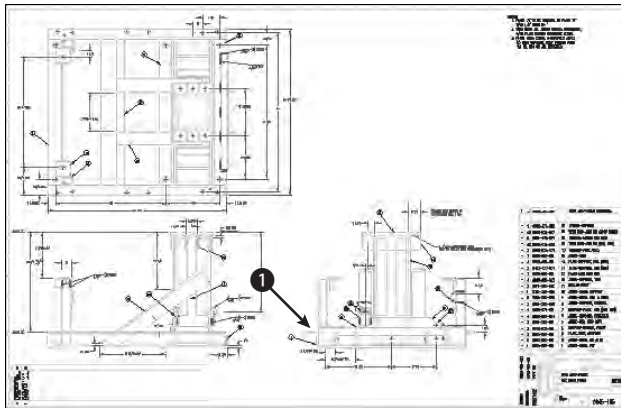
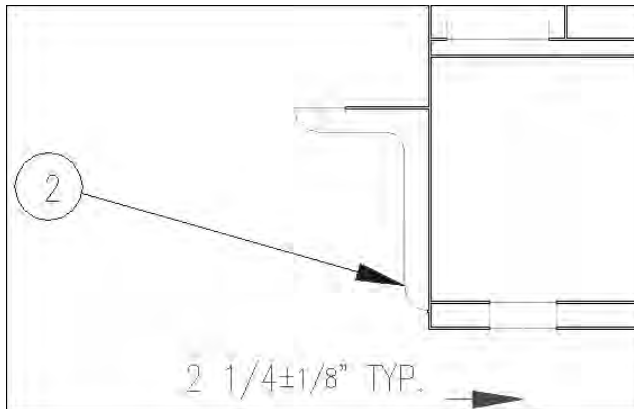

Figure 20-13: This drawing of a base assembly for a commercial washing machine has objects that can be linked to the database of parts.
Figure 20-14: The horizontal angle
1. You should have `ab20-01.dwg` open from the previous exercise. The Data View window is open with the database visible. The `PART_NO_Link1` link template is current. You can see the entire drawing in Figure 20-13.
6. AutoCAD returns you to your drawing. Use Zoom Window to zoom into the area marked ❶ in Figure 20-13.
7. Select all the objects that make up the angle bracket indicated by ❶ in Figure 20-13 (and which the drawing itself labels as 2), as shown in Figure 20-14. Include the two cyan hidden lines representing the hole, but not the yellow centerline. Don't select the vertical line on the right of the angle, which belongs to another part. Press Enter to end selection. AutoCAD returns you to the Data View table and displays 1 Record(s) linked with 8 Object(s) on the command line.